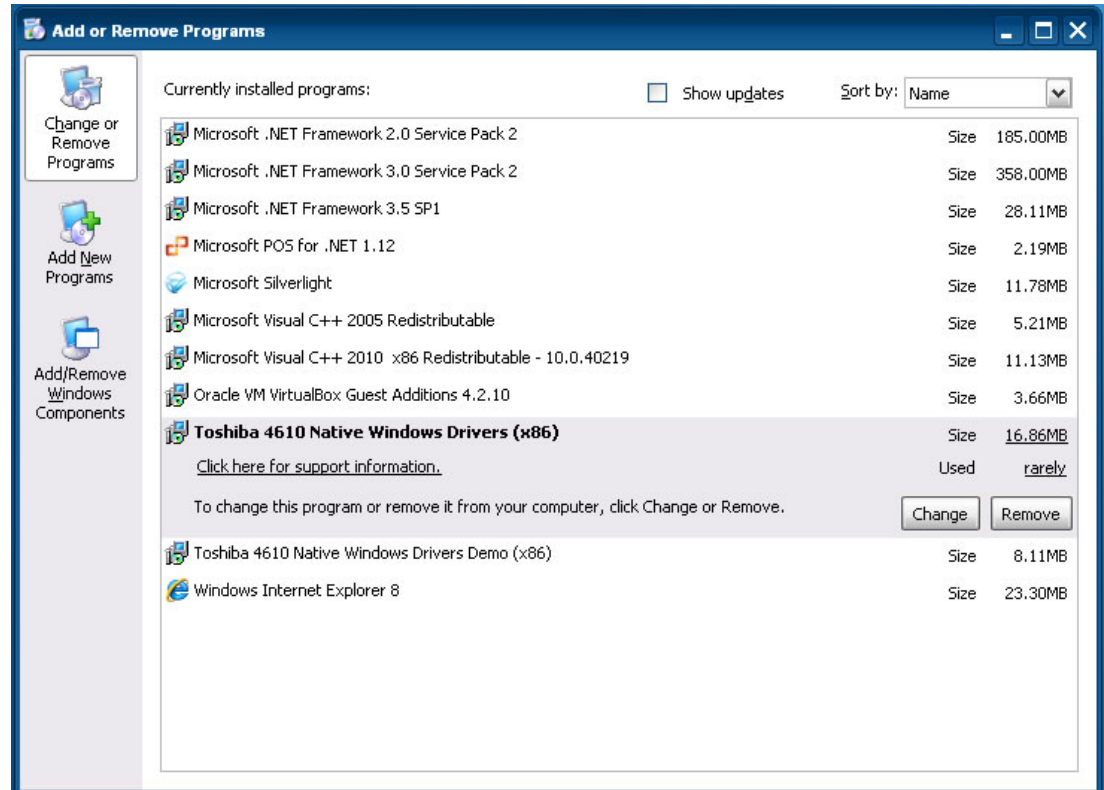

Figure 3. Add or Remove Programs
3. Search for the "Toshiba 4610 Suremark Printers Native Windows Driver". Click **Remove** to uninstall the driver (see Figure 3).